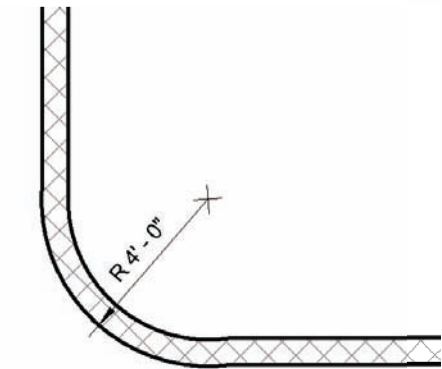

Figure 4.21
- **Radial** dimensions show the radius of an arc or circle (see Figure 4.21).